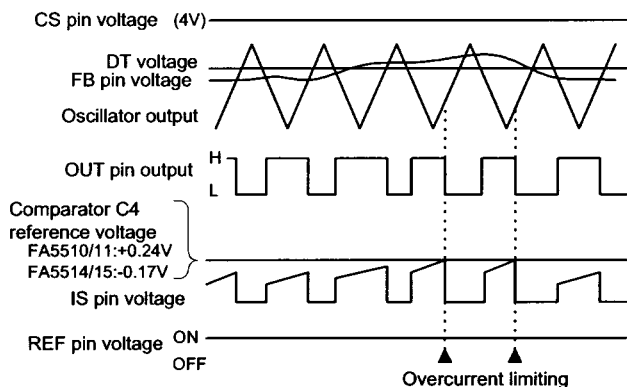

Fig.15 Overcurrent timing chart
If the overcurrent limiting circuit malfunctions due to noise, place an RC filter between the IS pin and MOSFET as shown in Figure 13 and Figure 14. (See item 12 in "Design advice.") Figure 15 is a timing chart that illustrates overcurrent-limiting operations.